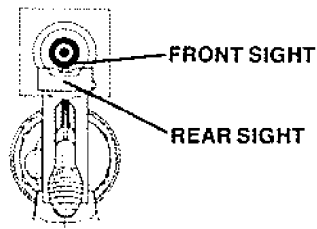

FIGURE 6-AIMING
2. Take aim by aligning target with front and rear sights (See Figure 6). Now focus on the front sight.